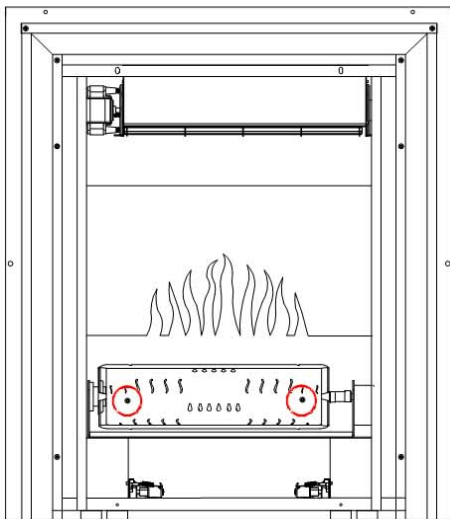

Figure 8
4. Remove the 2 screws on the cylinder drum. (See Figure8)